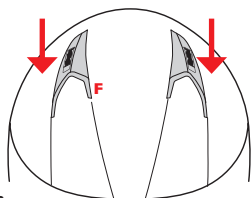

FIGURE 2
FRONT AIR INTAKE UPPER — F — Figure 2/3
- Figure 2: Slide the cursors forwards to completely close the air intake